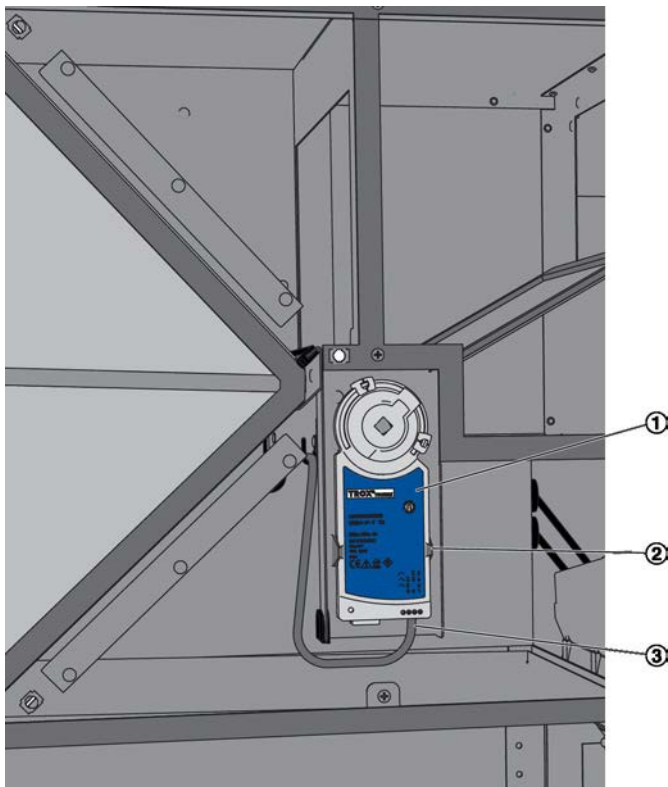

Fig. 31: Replacing an actuator
- ▶ Remove the plug of the connecting cable (Fig. 31/3) from the actuator (Fig. 31/1).
- ▶ Remove the actuator from the retaining bracket (Fig. 31/2) and from drive shaft of the bypass damper.